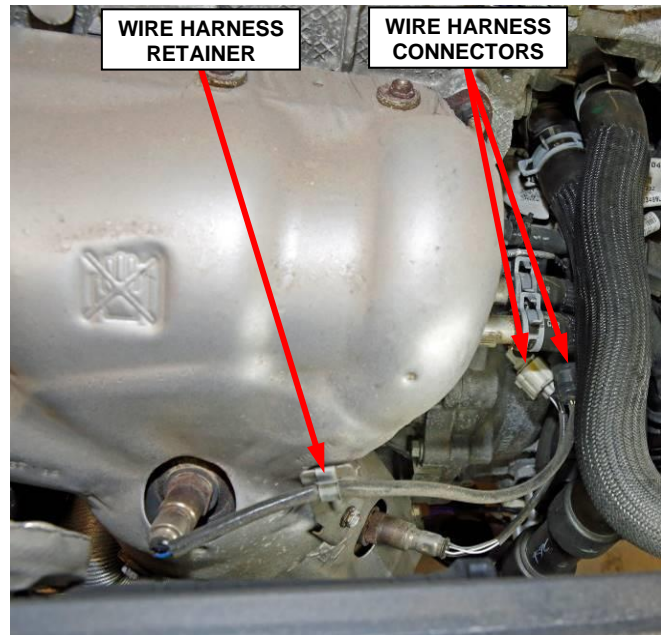

Figure 8 – Oxygen Sensors Electrical
15. Disconnect the upstream oxygen sensor and downstream oxygen sensor wire harness connectors (Figure 8).